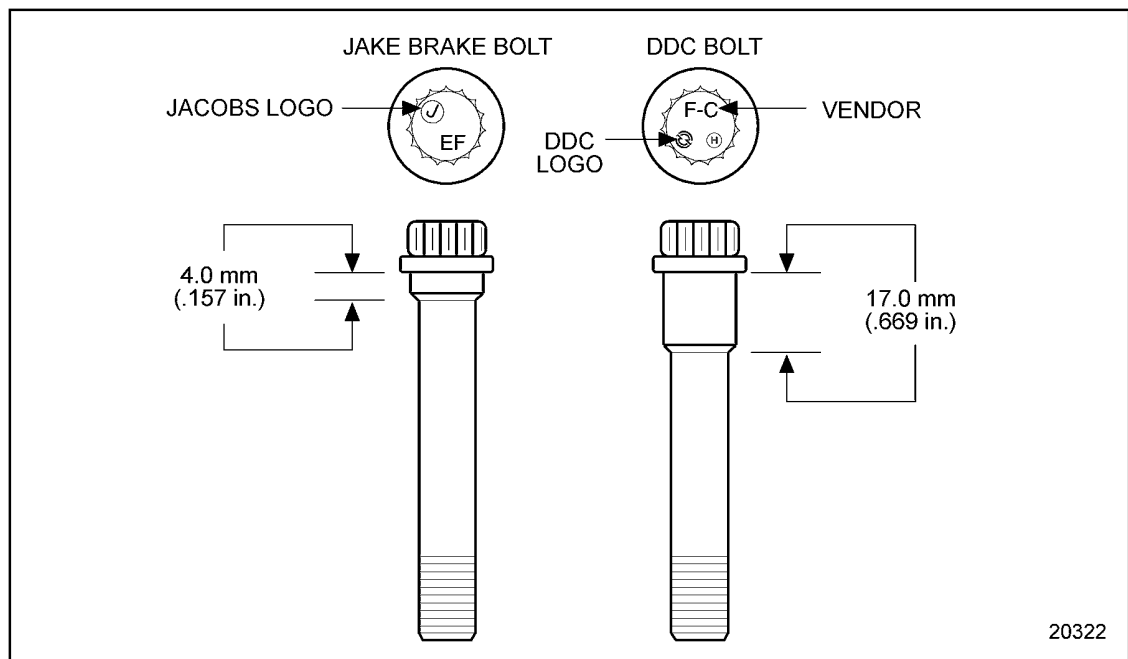

Figure 1-434 Jake Brake and DDC Bolt Identification
Be sure that only Jake Brake bolts, see Figure 1-434, are installed in the Jake Brake housing.
- [c] [c] The DDC bolt shoulder is much longer, 17.0 mm (0.669 in.) versus 4 mm (0.157 in.) than the Jake Brake bolt. See Figure 1-434.